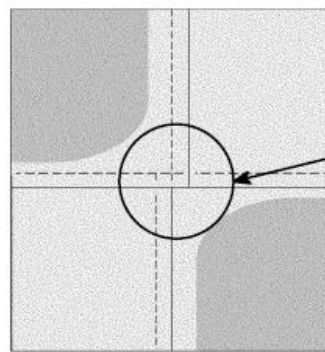

Figure 3. How to Overlap Seams
5. Continue applying subsequent panels, following Steps 2 through 4 and staggering overlaps to avoid creating more than three layers of film in any one location. See Figure 3.